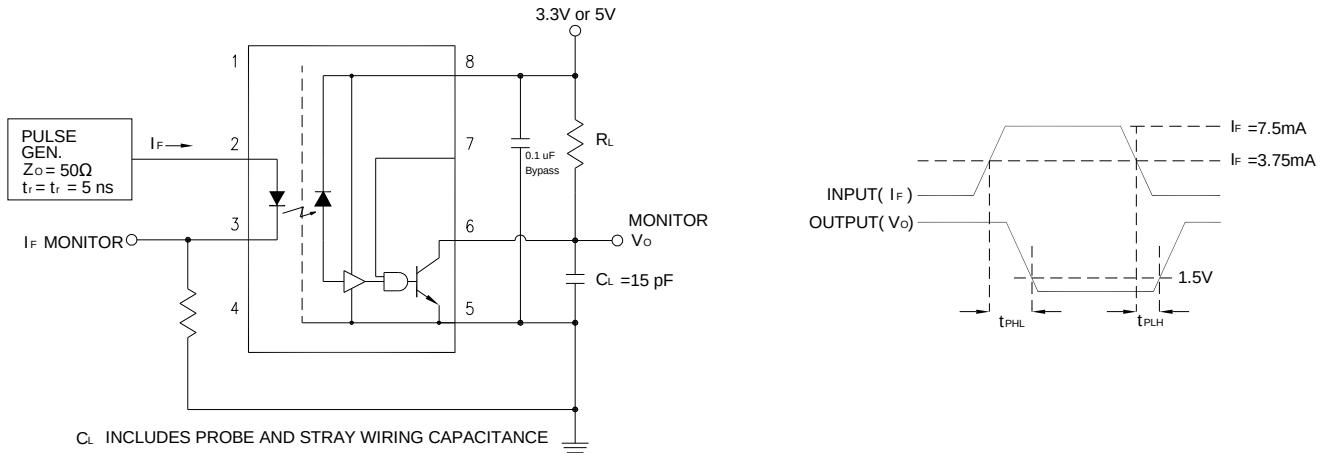

Figure 1: Test Circuit for t_{PHL} and t_{PLH}
1. A 0.1μF or bigger bypass capacitor for V_{CC} is needed as shown in Fig.1